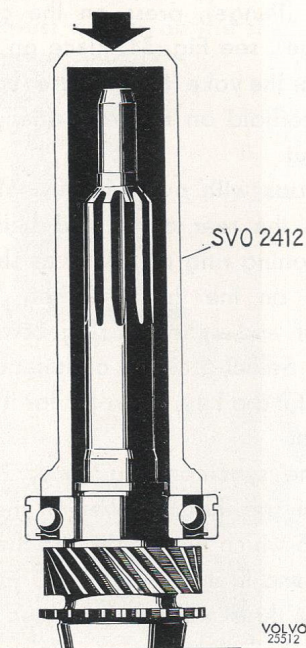

Fig. 37. Fitting ball bearing on input shaft
- Press the bearing onto the input shaft with the help of drift SVO 2412, see Fig. 37. Select a circlip of suitable thickness and fit it. Place the 14 bearing rollers for the mainshaft in position in the input shaft. Use grease to hold the rollers in place. Press the input shaft into position in the housing. Press the oil seal into the cover with drift SVO 2867. Then fit the cover over the input shaft. Do not forget the O-rings for the bolts (late prod.).